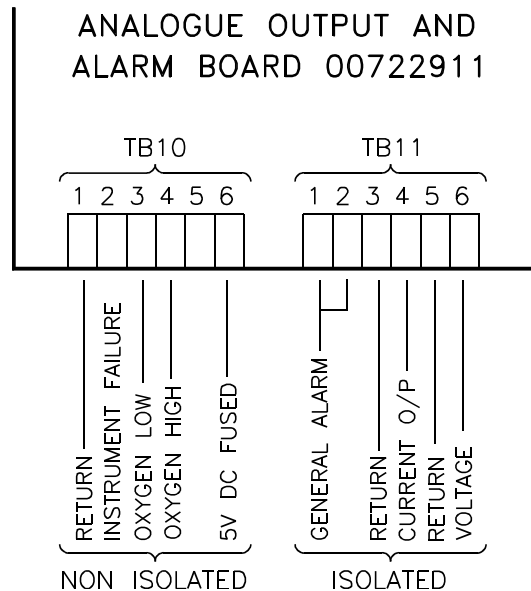

Figure 3.15 Isolated Oxygen Level and Alarm Connections
3.5.4.2 Isolated Oxygen Output and Alarm Card (See Figure 3.15)